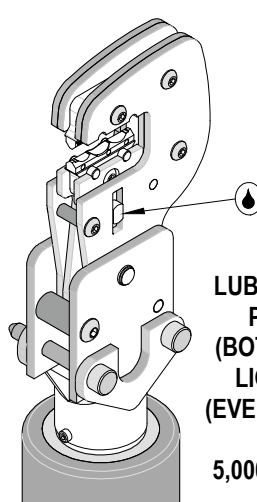

Figure 6A
3. Make certain all pins, pivot points and bearing surfaces are protected with a thin coat of high-quality machine oil. Do not oil excessively. The tool was engineered for durability, but like any fine piece of equipment, it needs cleaning and lubrication for a maximum service life of trouble-free crimping. A 30 weight automotive (light) oil used at the oil points every 5,000 crimps or 3 months will significantly enhance the tool life. See Figures 6A and 6B.